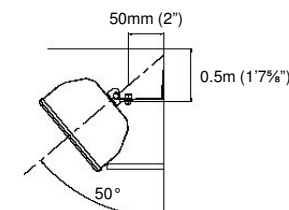
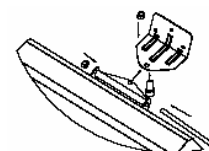

Fig 3
Fig 4
- Replace the heater on the bracket using the nut and bolt supplied (Fig 4 and 5) and fix at the required angular position by tightening the fixing bolt (Fig 3).